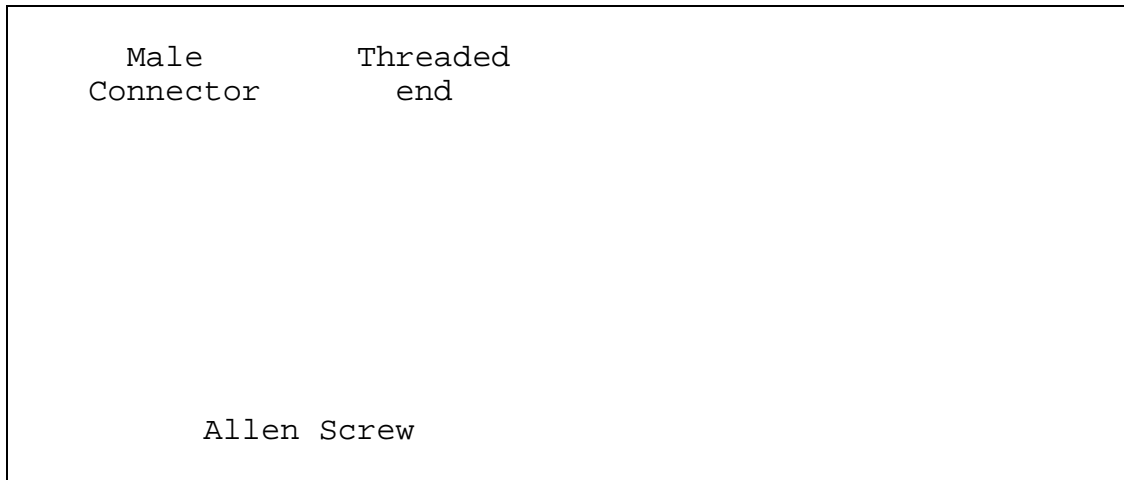

Figure 6: Assembly of the Connector Fastener
2. Slide the connector fastener over the male connector of the other measurement cable up to the end (Figure 6) and fasten the 2 Allen screws until their heads touch the external surface of the fastener.
The 2 Allen screws are not supposed to touch the hexagonal body of the male connectors but reach behind it, so the fastener can turn freely. A simple check for this is the final sitting of their heads on the fastener as described above. These Allen screws should normally be screwed using the fingers, not an Allen key (Figure 6).